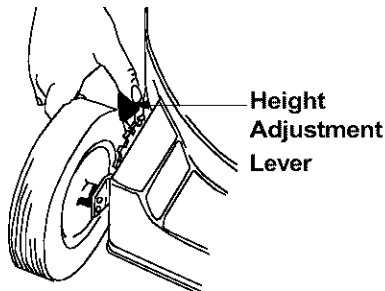

Figure 19
- Simply depress the lever towards the wheel and move the lever assembly to desired position. See Figure 19.